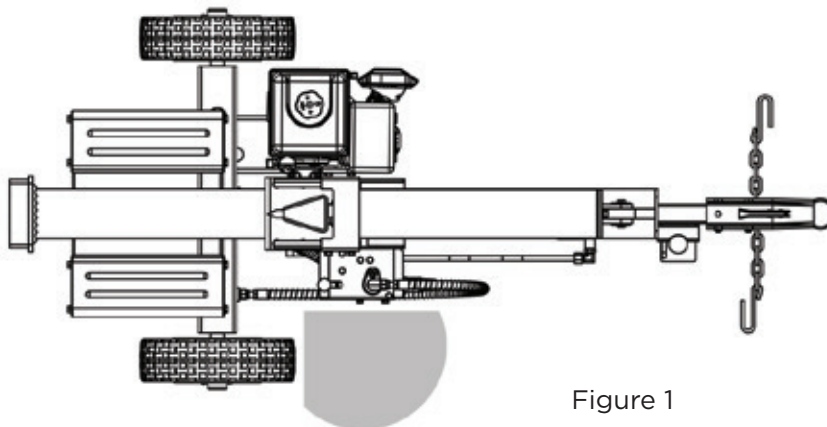

Figure 1
1. Horizontal Operating Position: Stand on the control lever side of the log splitter and stabilize log if needed. (See Fig. 1).